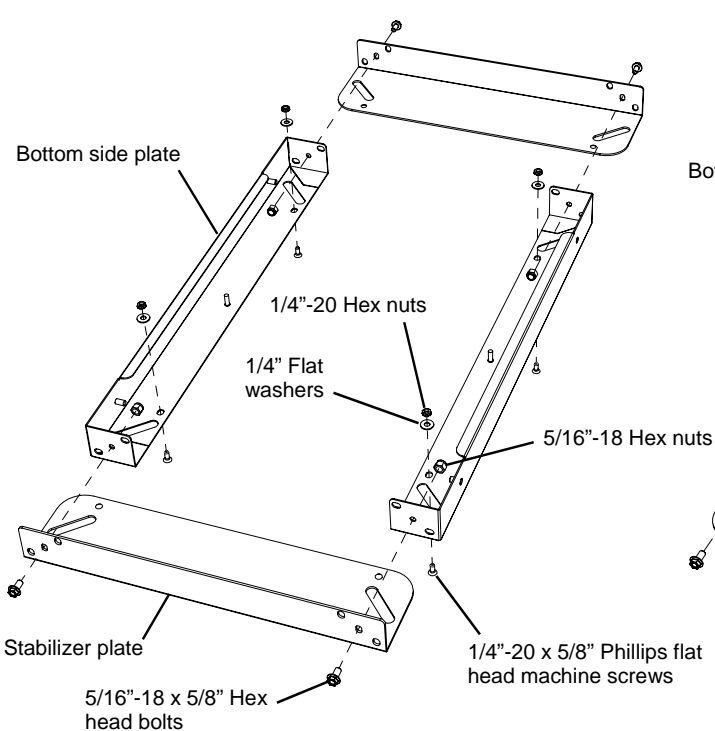

Figure 1
- (1) Equipment Mounting Hardware Kit
**The 1/4" hardware is only used when the stabilizer plates are inward oriented. See figure 1.
Note: The stabilizer plates may be oriented outward or inward. See figures 1 and 2.